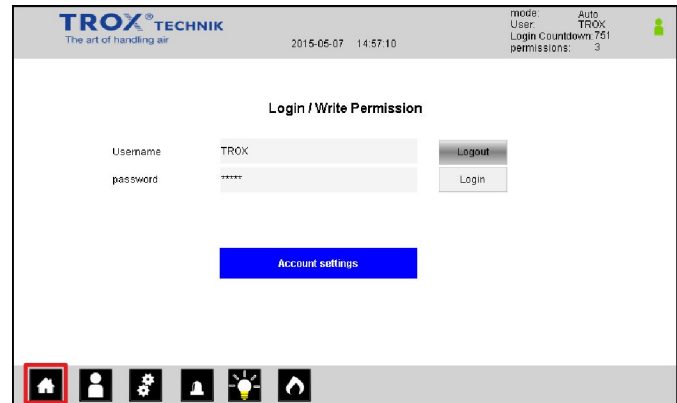

Fig. 18: Opening the system overview screen (variant 1)
- ▶ Once you are logged in, press (Fig. 18).